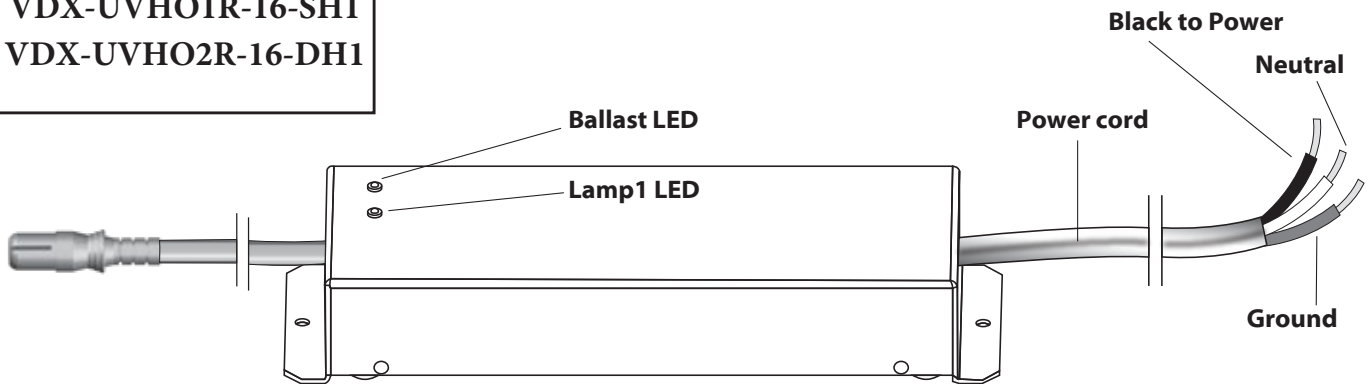

Figure 14
Step 14) 120/240/277 Volt. Connect power cord to desired voltage. (See Figure 14)